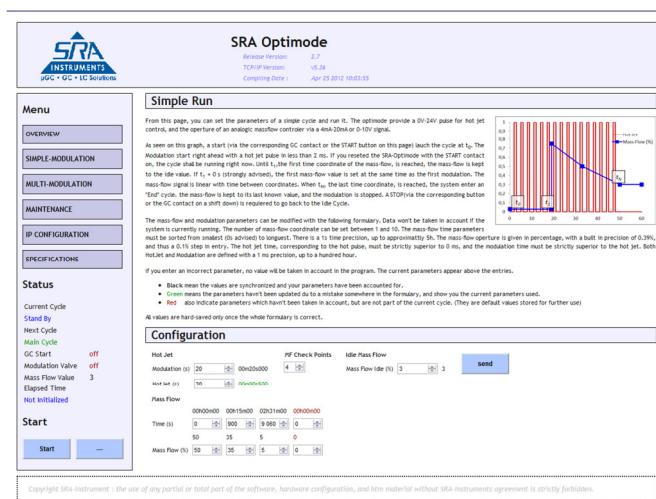

Figure 2 : home page of the web site.
The device hosts an embedded web server. It provides webpages for parameters control. Accessing the interface only require a LAN connection (see Figure 1 (A)) and a web browser (overview Figure 2). The SRA-Optimode is also used off-line, with factory parameters, or with pre-set parameters (after LAN configuration).
Each page of the web interface is built on the same model (Figure 2). The interface comprises several parts.